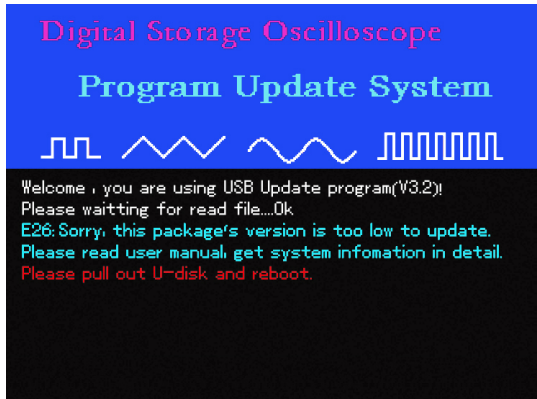

Figure 5-14
9.If the software version of the upgrade document is lower than that of the Oscilloscope, the prompt in Figure 5-14 will appear “E26: Sorry, this package’s version is too low to update. Please read user manual, get system information in detail. Please pull out U-disk and reboot.”